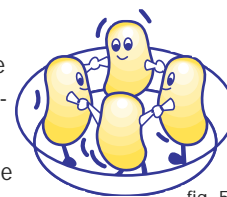

fig. 5
- 5) If you are preparing a large number of portions of the same food item (e.g., boiled potatoes), **place** those portions in a large dish in order to have them cook in a uniform manner (see Fig. 5):